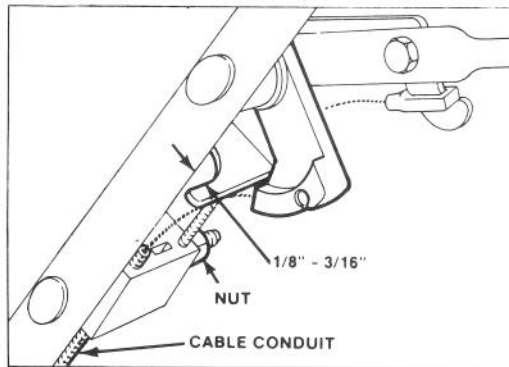

Figure 22
2. **CHECK ADJUSTMENT** (Fig. 22) — Move control bar toward handle until slack in wire is removed. Gap between brake lever and handle must be  $1/8"$ – $3/16"$ . See step 3 for adjustment.
3. **ADJUST CABLE CONDUIT** (Fig. 22) — Loosen nut on cable bracket. Insert  $1/8"$ – $3/16"$  object between brake lever and handle. Pull down on cable conduit until all slack is removed from wire. Then tighten nut.